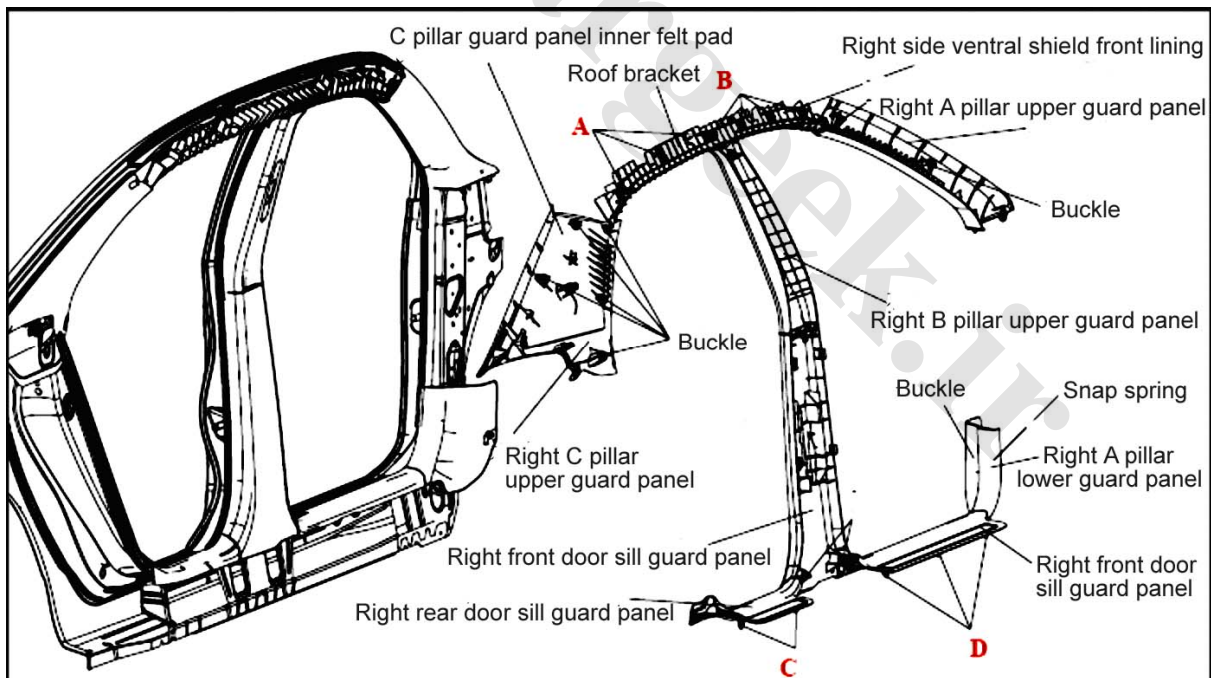

Fig. 7-27
1. Assembly of side wall, as shown in Fig. 7-27.